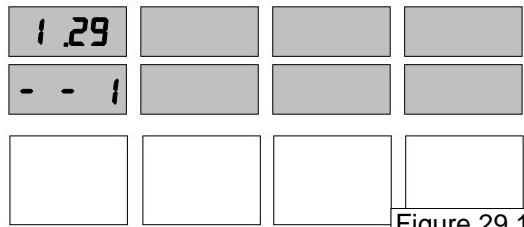

Figure 29.1
1. After the Manager's Mode has been accessed, press the number 2 and 9, then the **MODE** button on the keypad. The top left price display shows the dispenser is in Menu Code 29. The first digit shows you that it is displaying the totals for the volume of Product 1. The bottom left price display shows you that it is displaying side 1. See figure 29.1